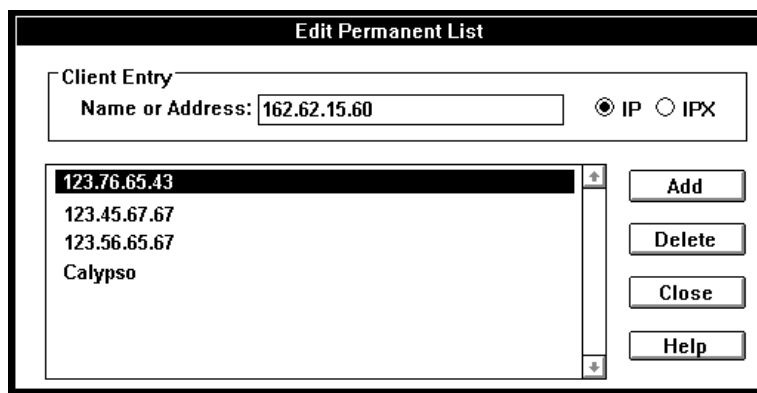

Figure 2-9. Edit Permanent List Dialog Box
- 3 Select **Edit Permanent List**. Enter the server's password at the prompt. The Edit Permanent List dialog box appears, as shown in Figure 2-9.